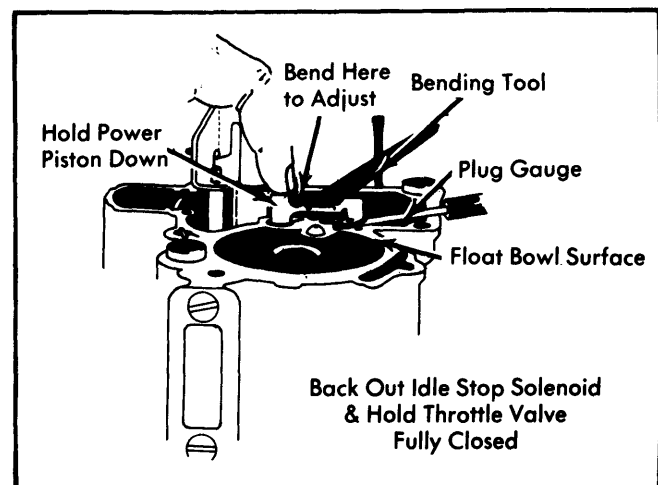

Fig. 2 Adjusting Metering Rod
- 1) Remove air horn and gasket. Hold throttle valve wide open. Push down on metering rod against spring tension. See Fig. 2.